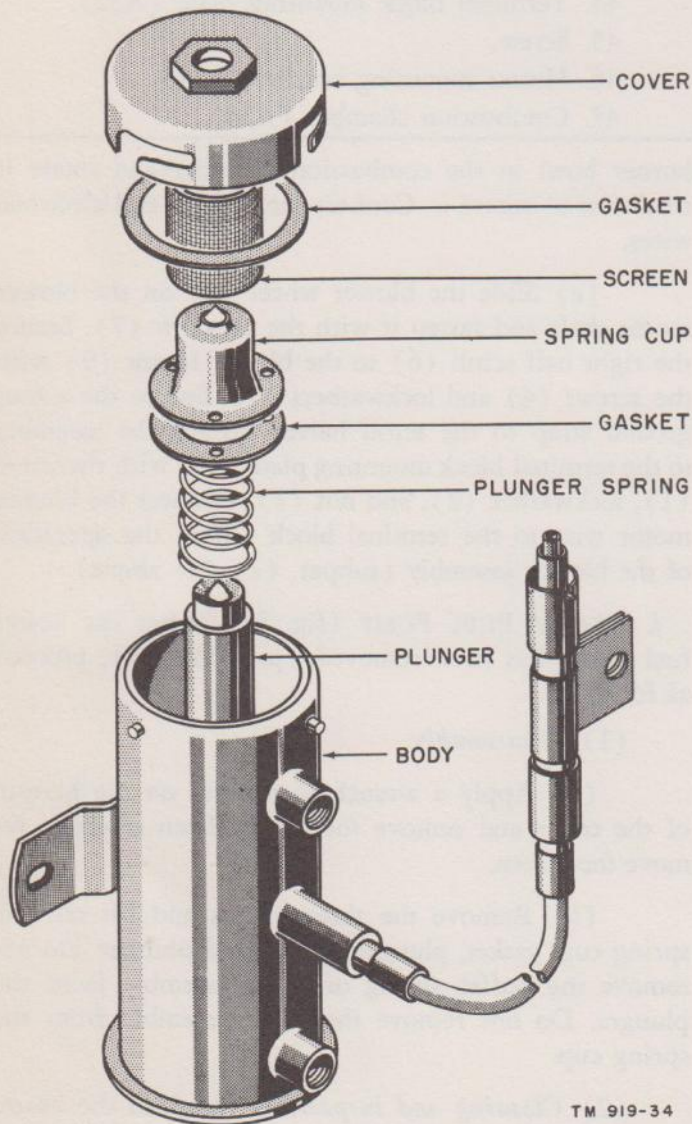

Figure 34. Heater fuel pump, exploded view.
l. HEATER FUEL PUMP (fig. 34). After the heater fuel pump has been removed (par. 530(3)), proceed as follows: